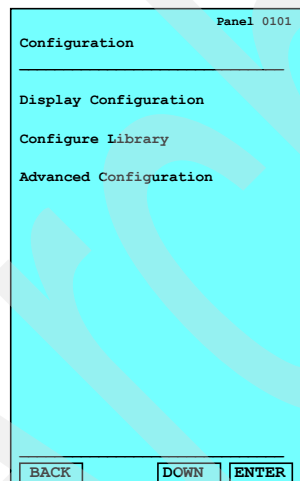

Figure 2-42 IBM TS3500 operator panel: Configuration
4. Press **Up** or **Down** to highlight *Advanced configuration* and press **Enter** (Figure 2-42). The library displays the message: If you continue with configuration the library will go offline. Press **Enter** to continue.